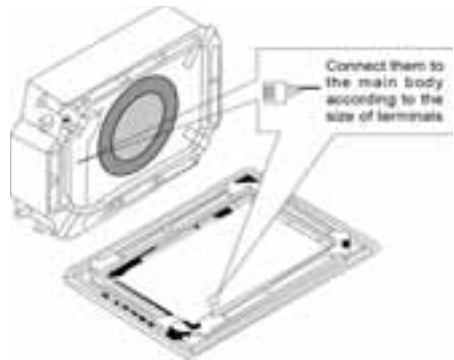

Fig. 4.34
- (4). Wire the swing flap motor and lamps to the main body according to the size of Terminals and the connection cord color as shown in Fig.4.34.